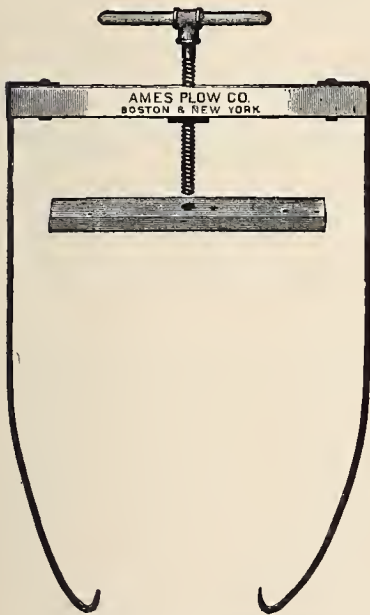

Fig. 422. — Barrel-Header.
*The Apple-Barrel Header*, represented by *Fig. 422*, is a very useful contrivance for heading barrels; and no producer should be without one. We make them either with wood or improved wrought-iron